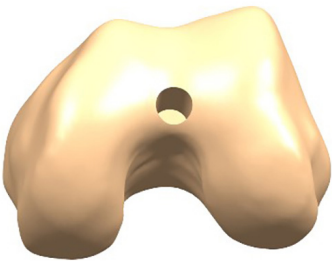

Figure 5
- 1. Open the femoral canal with the 9.5mm Intramedullary Drill. The drill has a 12mm step to open the entry point further (Figure 5).